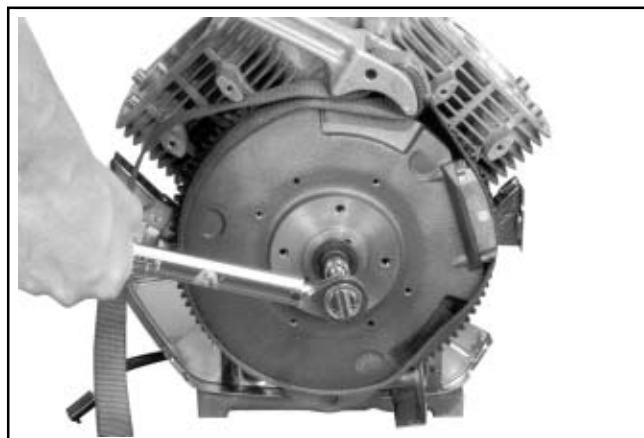

Figure 11-29. Installing and Torquing Flywheel Fastener.
4. Use a flywheel strap wrench or holding tool to hold the flywheel. Torque the hex. flange screw securing the flywheel to the crankshaft to **66.4 N·m (49 ft. lb.)**. See Figure 11-29.